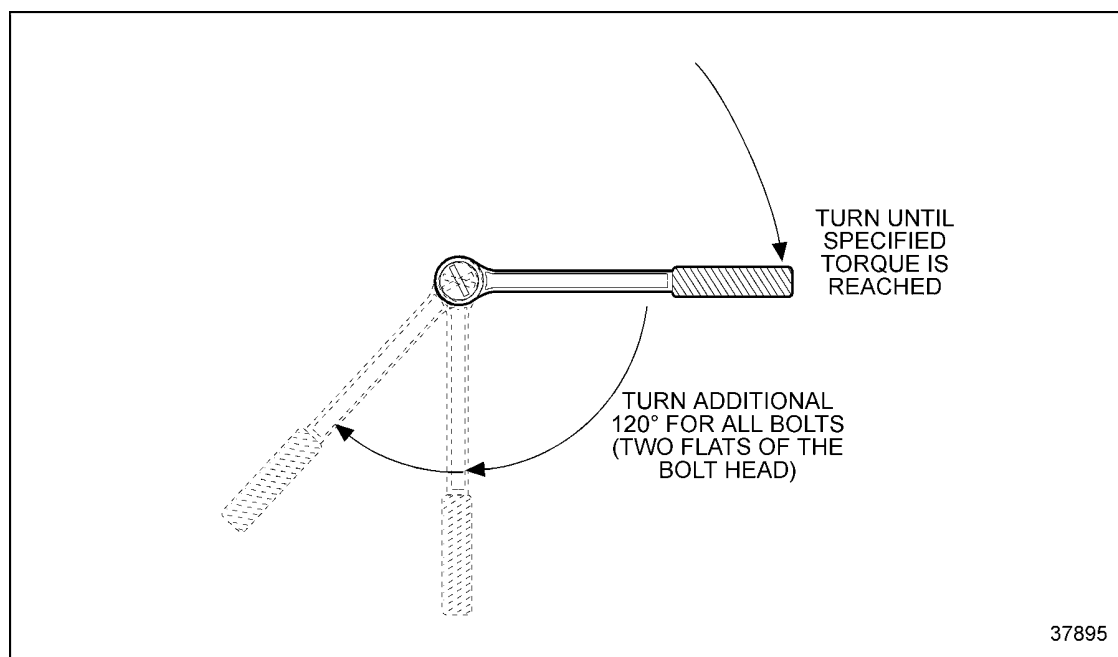

Figure 1-311 Torque Turn Limits — Camshaft Drive Gear-to-Camshaft Bolts
24. Turn the bolt an additional 120 degrees. See Figure 1-311.